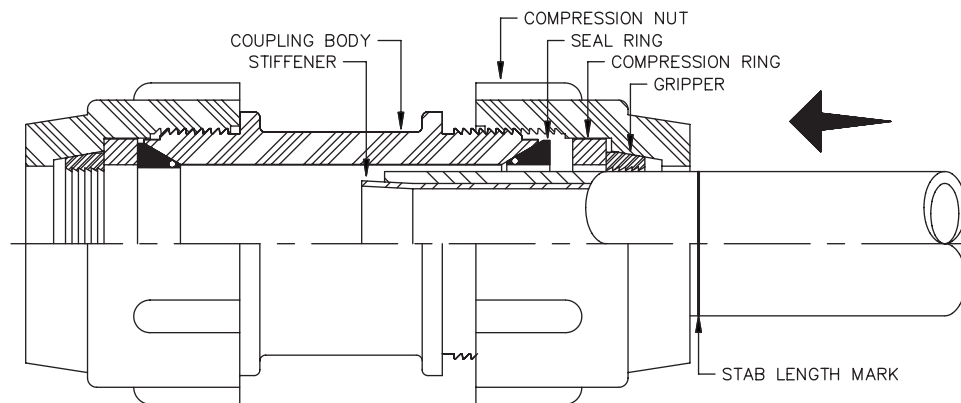

Figure 1
5. Stab coupling onto the pipe end up to (not past) the stab mark. (When stabbing the pipe, the nut should be loosened to the point that at least three to five threads are showing). See figure 1.